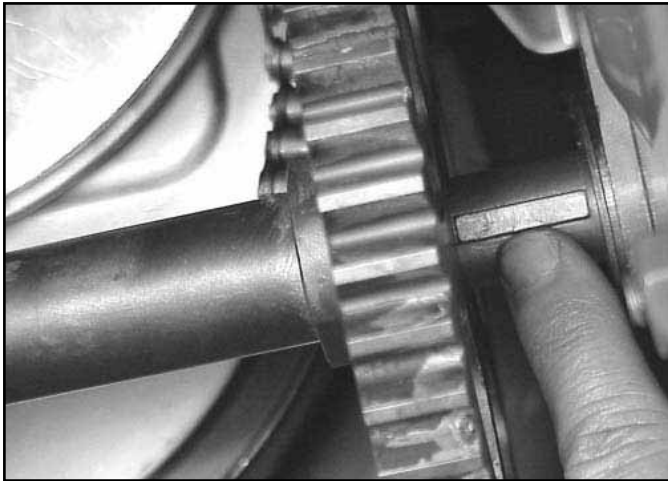

Fig 161
13. Insert the woodruff key onto the axle shaft evenly and make sure the 44-tooth gear can ride over the shaft freely (Fig. 161).